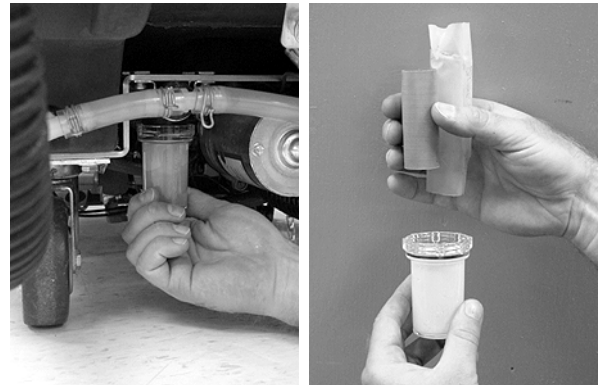

FIG. 36
1. Remove the solution tank filter from underneath the machine and rinse out the screens. Make sure the solution tank is empty before removing filter (Figure 36).